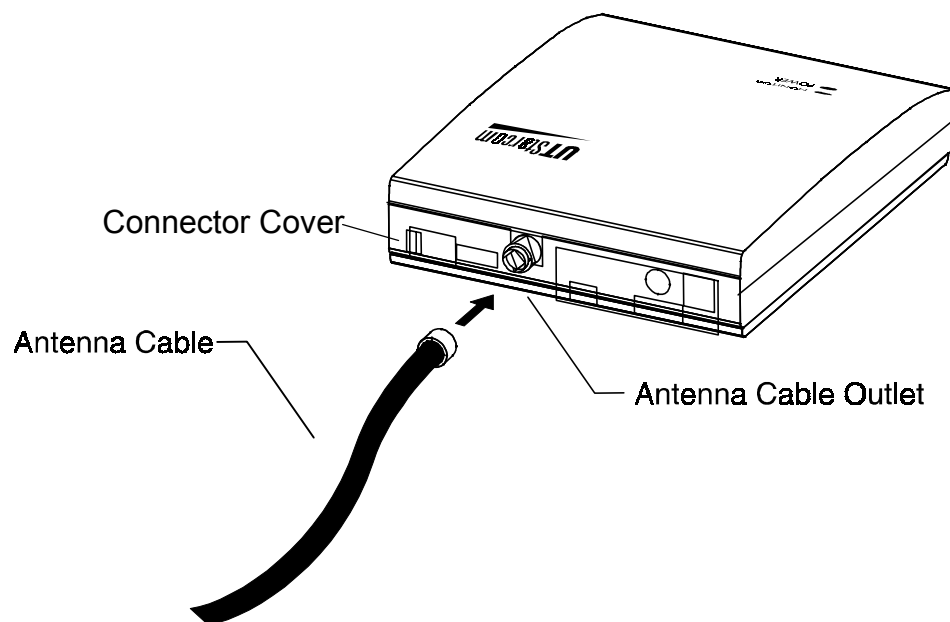

Figure 4-12 : Antenna Cable Connection
2. Connect the external antenna cable to the Antenna Cable Outlet located on the back of the FSU. Refer to Figure 4-12.